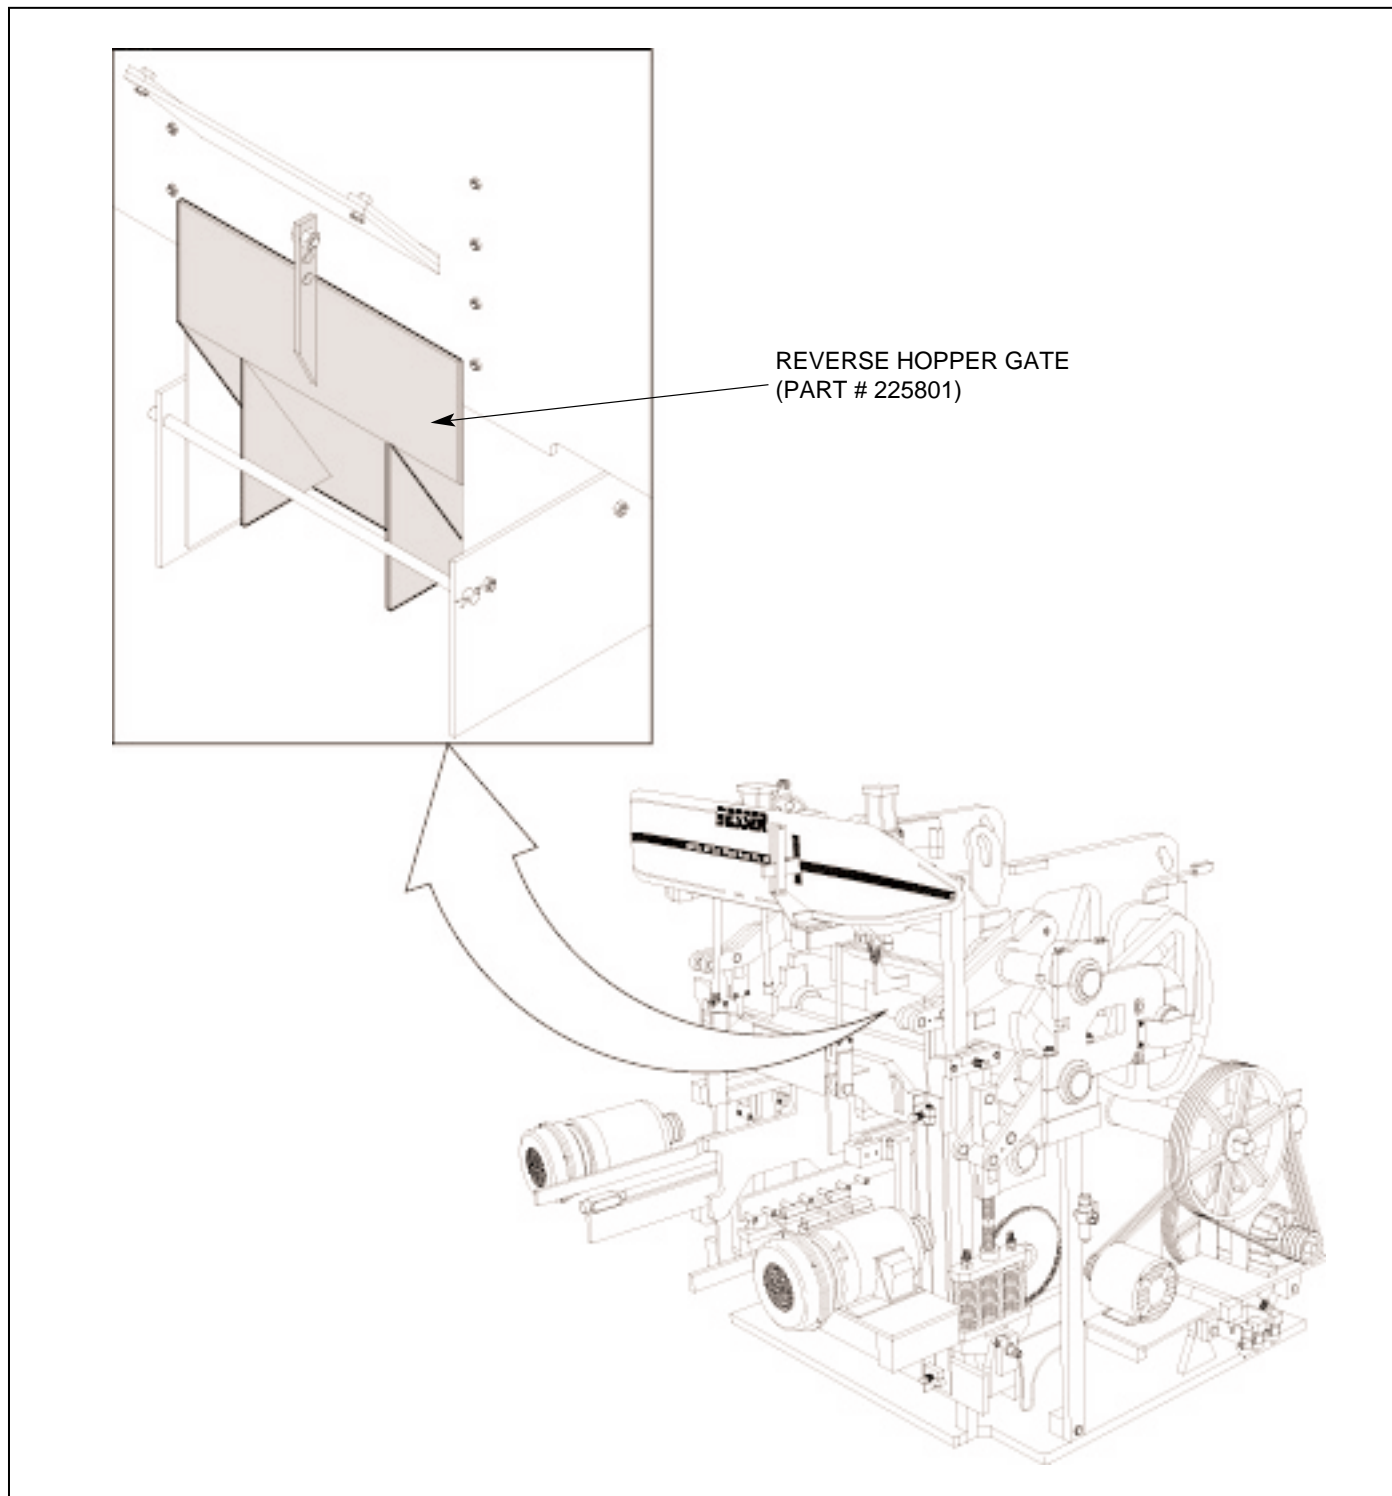

Figure 4.35 REVERSE HOPPER GATE
4.3.7 Install the reverse hopper gate (**part #225801**). See figure 4.35.